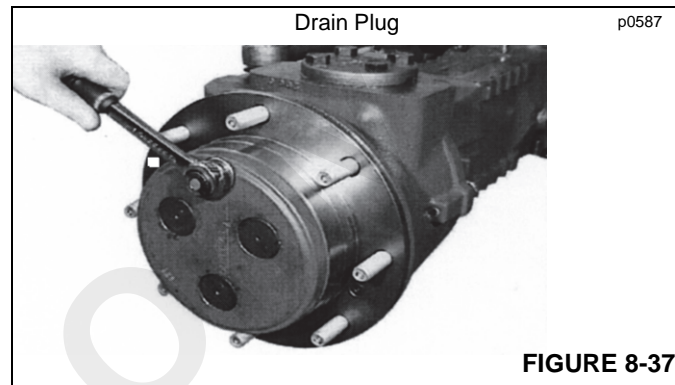

FIGURE 8-37
1. Position the hub with the drain plug to the top of hub (Figure 8-37). Loosen the drain plug slightly to remove any pressure that may have built-up in the hub.